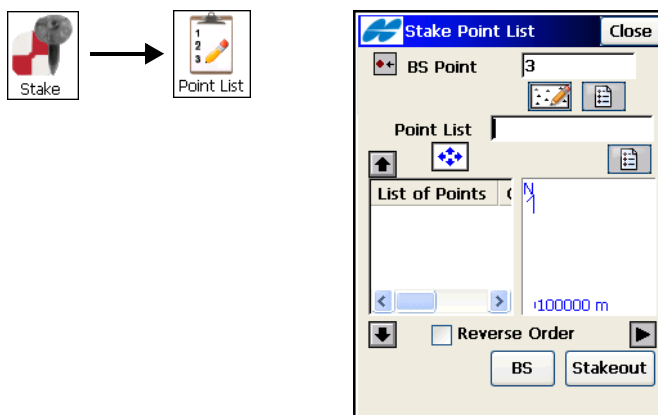

Figure 9-55. DL Stake Point List
1. To stake out elevations at design points in a point list, tap **Stake ► Point List**. The *Stake Point List* screen displays (Figure 9-55).